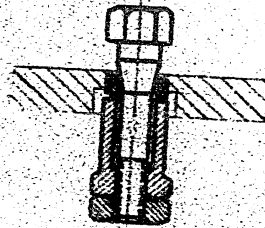

Fig. 23
d) screwing out valve seats by means of a special tool used when it is impossible to screw out the seat with the aid of the tools mentioned in "b" and "c" items (Fig. 23).